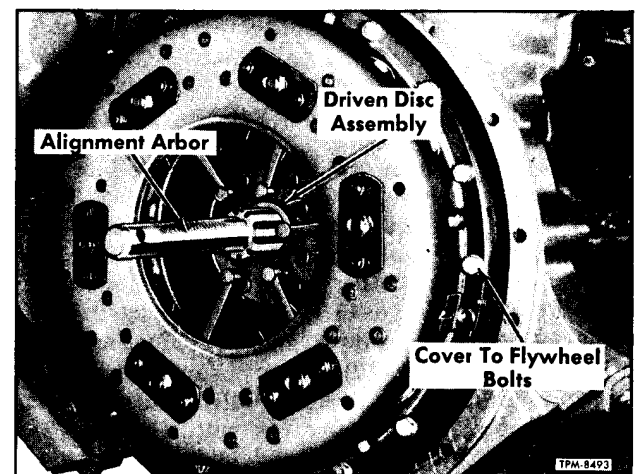

Figure 10—Clutch Cover Assembly Installed (Disc Aligning Tool Shown)
1. Install six bolts (cap screws -3/8"-16 x 2", threaded 1") through holes in cover plate (12) located directly above each release lever (32). Turn screws into pressure plate (9) as far as possible. This procedure relieves pressure spring (11) load so cap screws (35) can be easily removed.
2. Install aligning arbor (fig. 10) or old clutch shaft to support driven disc when removing clutch cover assembly.
3. Remove cover bolts (35), meanwhile supporting clutch. Tap flange of clutch cover with soft mallet to free assembly from flywheel. Remove clutch cover assembly, driven discs, and drive plate (8).
4. To remove pilot bearing (40), flywheel bolts (39) must be first removed as pilot bearing is retained by bearing retainer (3) which also serves as bearing plate for flywheel bolts. Remove flywheel and drive out pilot bearing assembly (40).
5. Locate rear driven disc (37) at plate (8), referring to "CAUTION" note above for correct identification of rear disc and proper position of slinger. Insert aligning arbor through driven disc hubs and into pilot bearing (40) to hold disc splines in alignment while cover assembly is being installed. Refer to figure 10.
6. Place clutch cover assembly at flywheel, then install cover bolts (35) with new lock washers. Tighten bolts evenly and firmly.